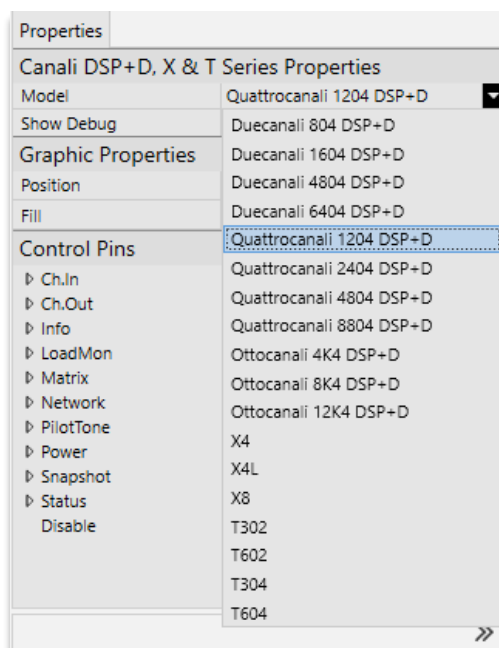

Figure 2 – Screenshot of QSYS Designer’s Properties Pane.
2. Choose the model to control in the QSYS Properties pane (Figure 2).